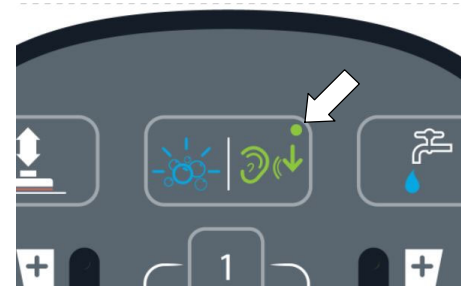

FIG. 43
5. Press the Quiet-Mode button to reduce the vacuum motor sound (Figure 43). A green LED in the corner will turn on when mode is activated. Press button to turn off.